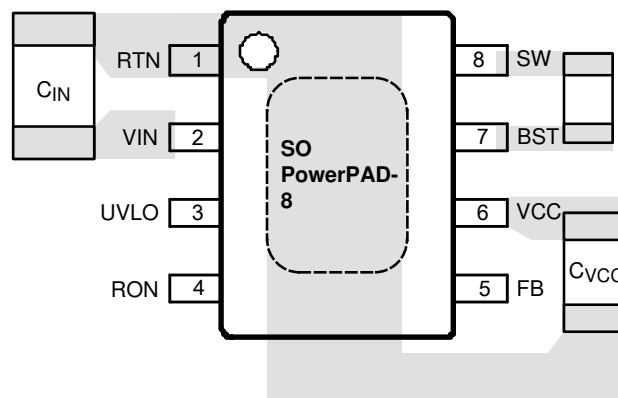

Figure 10-1. Placement of Bypass Capacitors
1. C_{IN} : The loop consisting of input capacitor (C_{IN}), V_{IN} pin, and RTN pin carries switching currents. Therefore, the input capacitor should be placed close to the IC, directly across V_{IN} and RTN pins and the connections to these two pins should be direct to minimize the loop area. In general it is not possible to accommodate all of input capacitance near the IC. A good practice is to use a 0.1- μF or 0.47- μF capacitor directly across the V_{IN} and RTN pins close to the IC, and the remaining bulk capacitor as close as possible (see Figure 10-1).
2. C_{VCC} and C_{BST} : The V_{CC} and bootstrap (BST) bypass capacitors supply switching currents to the high and low side gate drivers. These two capacitors should also be placed as close to the IC as possible, and the connecting trace length and loop area should be minimized (see Figure 10-1).